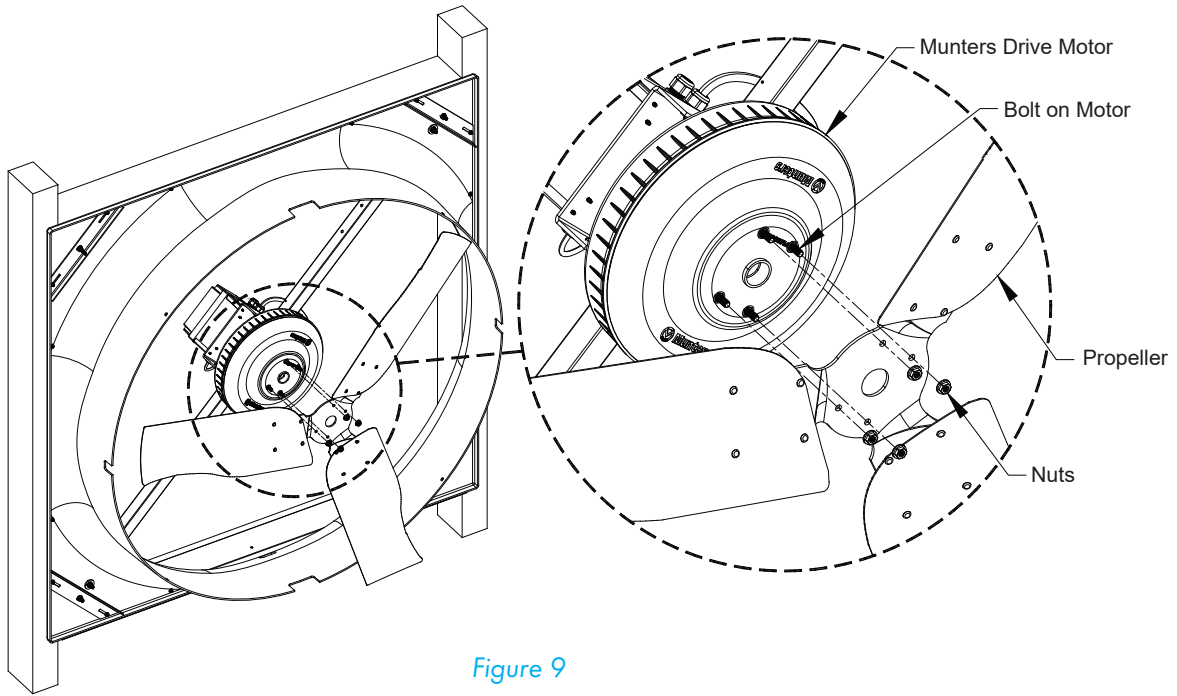

Figure 9
Remove (4) nuts from face of the Munters Drive Motor. Position propeller onto bolts on Munters Drive Motor and secure with (4) nuts just removed. Tighten the nuts to 200 in-lbs. of torque. See Figure 9.